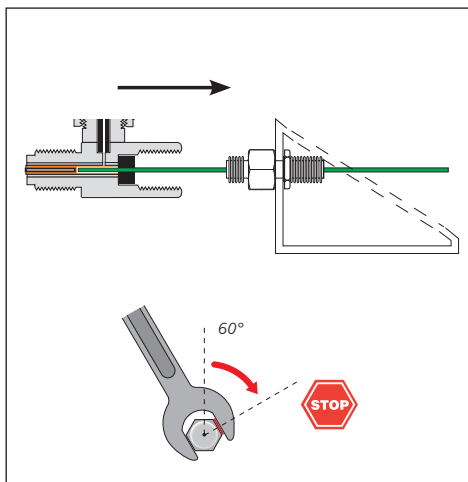

Figure 4.
- Carefully Insert the short end of the restrictor into the female side of the BackFlush tee. The restrictor will have to be positioned so that the fused silica is inserted into the hole in the center of the tee. The SilTite™ sealing ring should then sit flat against the inner surface of the tee. See Figure 4.